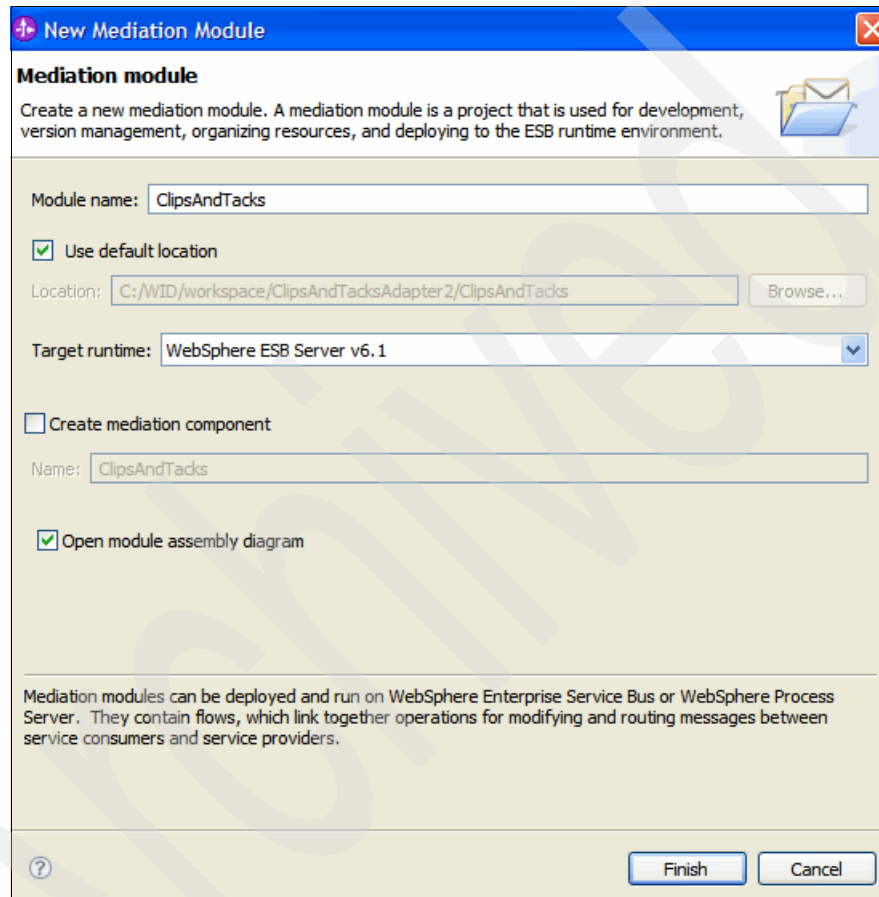

Figure 6-8 Creating the `ClipsAndTacks` module
3. In the New Mediation Module window (Figure 6-8):